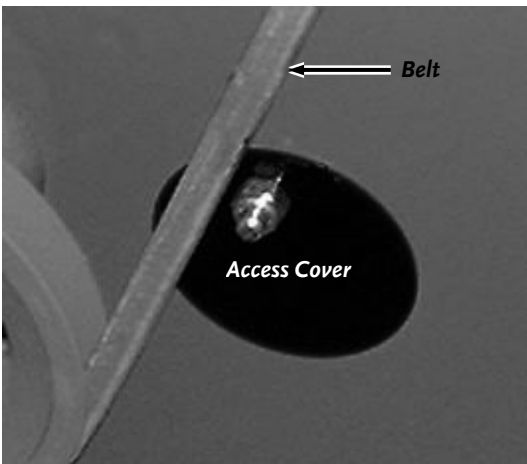

Figure 26
2. Loosen the 5/16" Nut and rotate the round Access Cover Plate to expose the Access Hole (**Figure 26**).